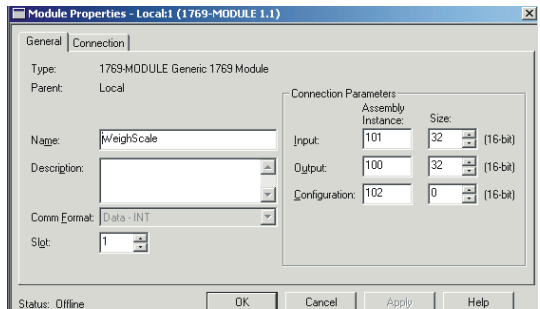

FIG. 4-11 MODULE PROPERTIES DIALOG BOX/CONFIGURATION/SIZE/0 WORDS
- Step 6. Click on the OK button. The Module Properties dialog box appears. (See Figs. 4-11 & 12)